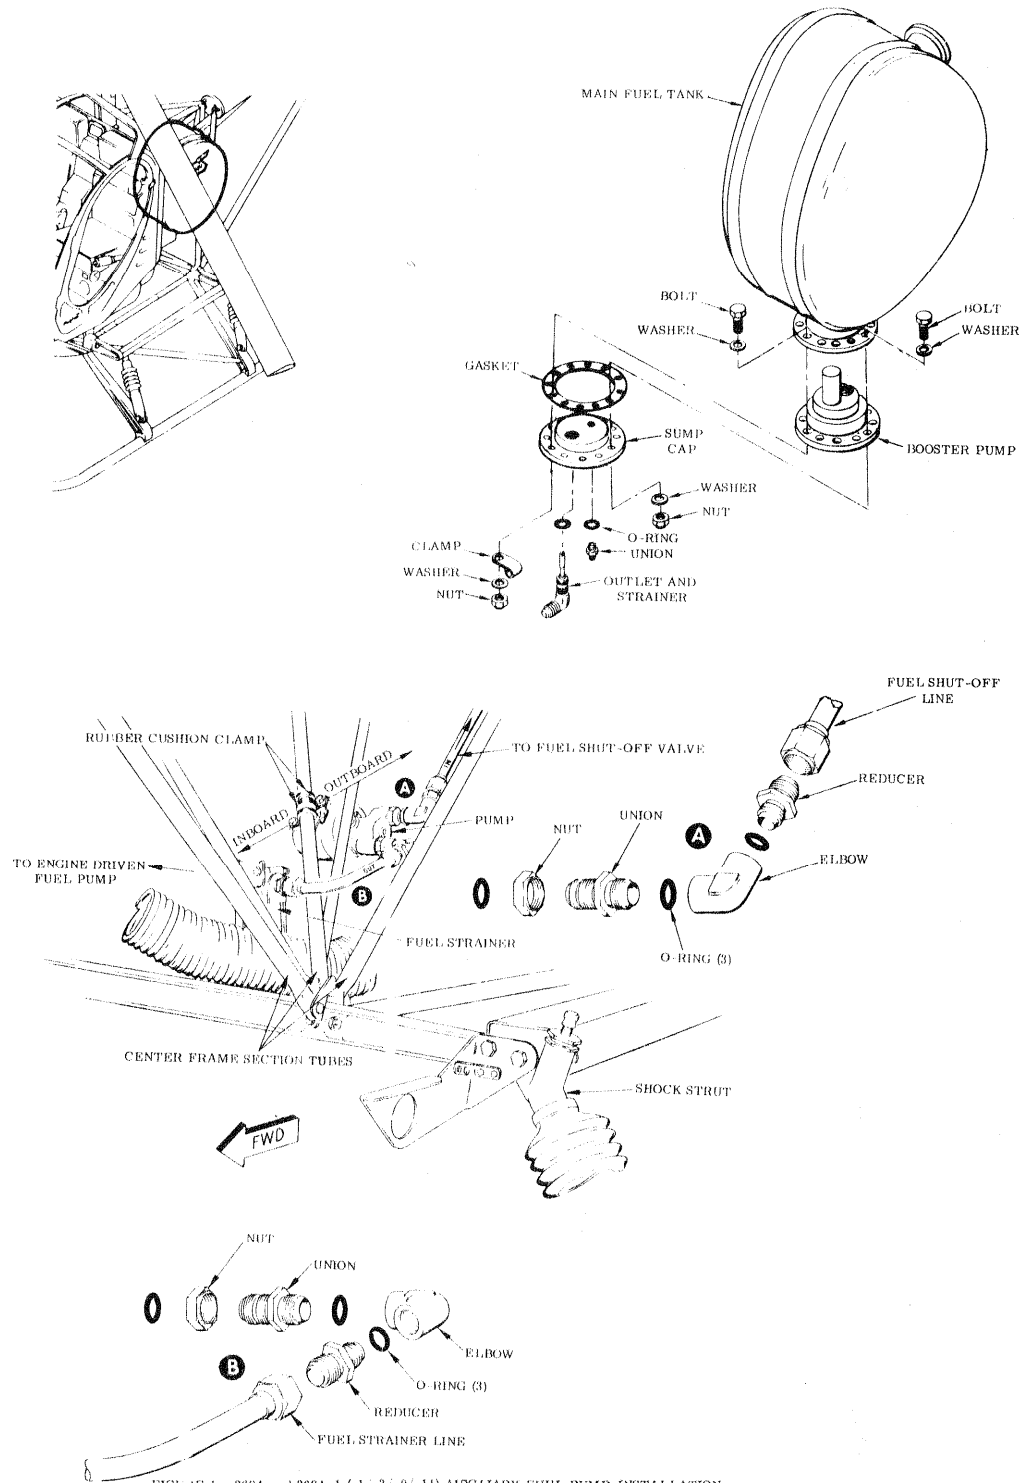

FIGURE 1. 269A and 269A-1 (-1/-3/-9/-11) AUXILIARY FUEL PUMP INSTALLATION
- c. Install two rubber cushion clamps on center frame section tube located between forward L/H engine mount and lower L/H cluster fitting. (See Figure 1)
- f. Remove bolts, washers, nuts and clamp securing booster pump to sump flange at bottom of fuel tank; remove booster pump from fuel tank. (See Figure 1)